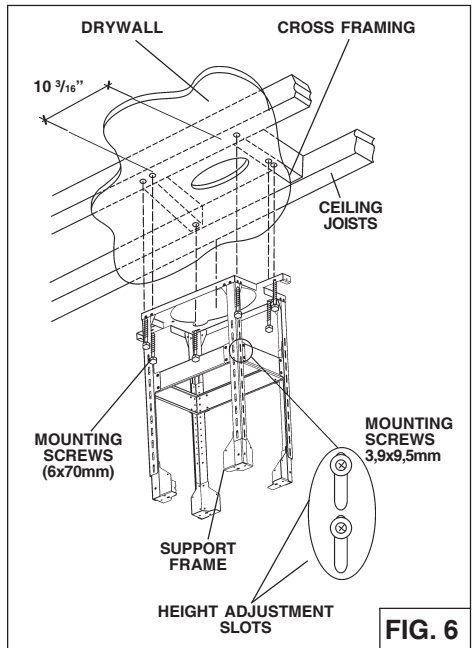

FIG. 6
3. Adjust the overall height using the chart below of the support frame. Loosen and re-tighten the 4 screws in the **height adjustment slots** as necessary. Insert 12 screws (3.9x9.5mm) located in the Hardware Package (Fig.6) make sure this a 4" min. overlap between the upper and lower support legs.
4. Secure the support frame to joists and cross framing with six (6) screws provided (6x70mm). Make sure screws are driven into center of joists and framing for maximum strength.